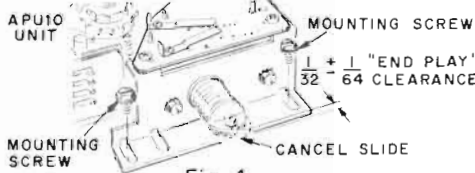

Fig. 4.
3. Remove mounting screws. (Fig. 4).
6. To get proper Cancel Slide "end play" clearance of $\frac{1}{32} \pm \frac{1}{64}$ slide APU10 backward or forward. This is IMPORTANT for unit to subtract properly. (Fig 4).